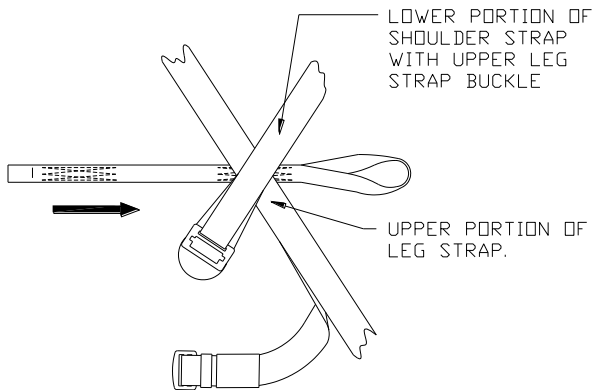

Fig. 1
- ◆ Slide the end of the rappelling loops with the 4" diameter loop under the harness straps at the point where the lower portion of the shoulder straps cross the upper portions of the leg straps (Fig.1).